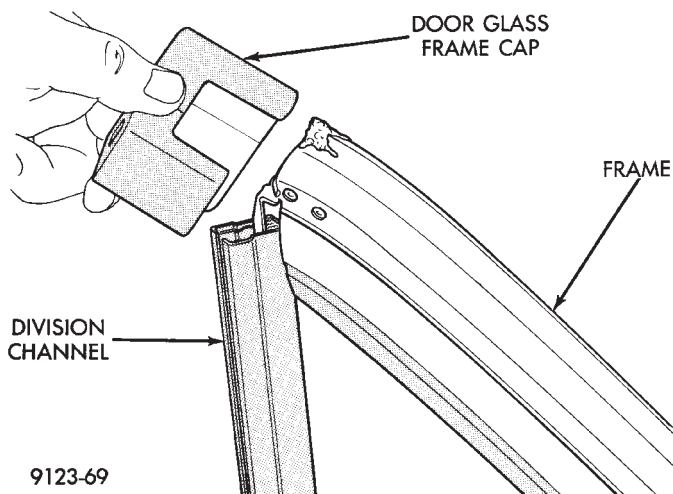

Fig. 19 Door Glass Frame Cap
- (1) Remove door trim panel.
- (2) Remove window frame cap from above stationary glass wing (Fig. 19).